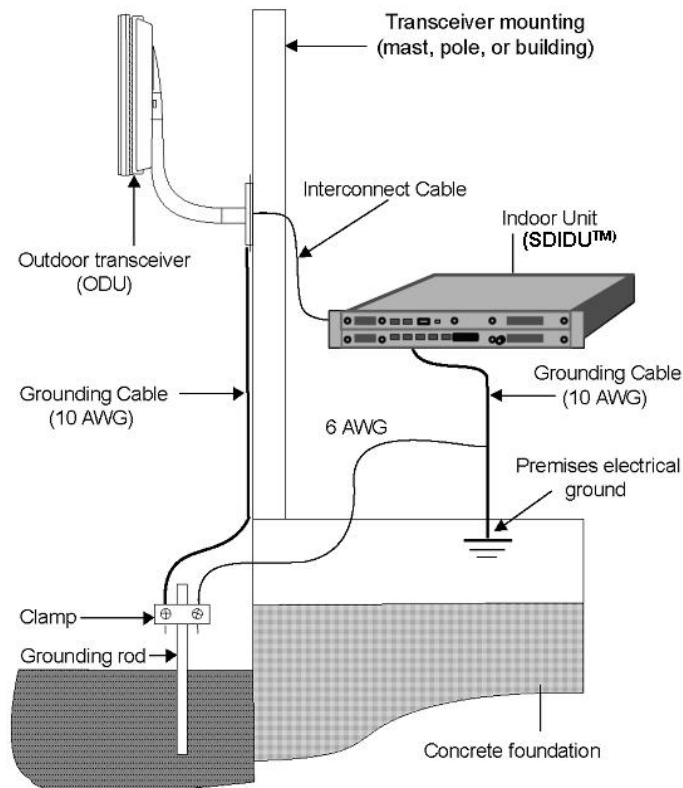

Figure 3-11 Ground Connections to ODU
3. Attach a grounding clamp to the grounding rod. You will use this clamp to attach grounding wires for both the ODU and indoor junction box, reference Figure 3-11.